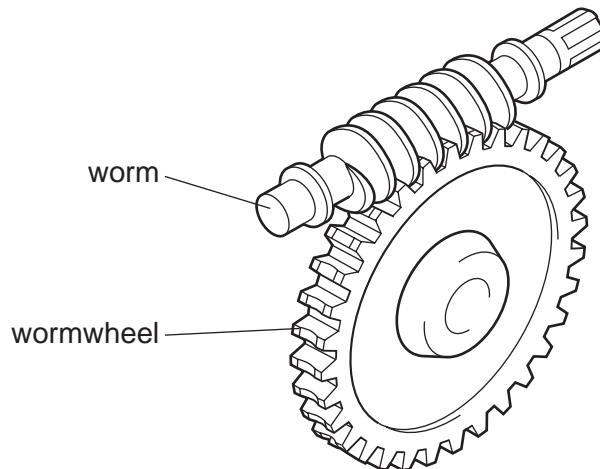

Fig. 4
- 4 Fig. 4 shows a worm and wormwheel system.
- (a) Label Fig. 4 to show the input gear and output gear.